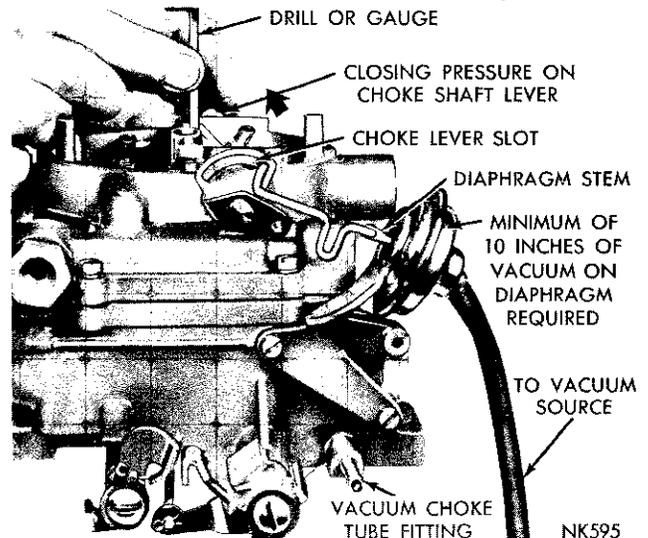

Fig. 14—Checking the Choke Vacuum Kick Setting
- (1) With the engine **Not** running, open the throttle valves far enough to allow the choke valve to be moved to the closed position.
- (2) Disconnect the vacuum hose from the diaphragm and connect the hose from the vacuum supply, as shown in (Fig. 14). (A minimum of 10 inches of vacuum) will be required.
- (3) Insert the specified drill between the choke valve and the wall of the air horn. Refer to (Fig. 14). Apply sufficient closing pressure on the choke shaft lever to provide the smallest choke valve opening possible without distortion of the diaphragm link. Note that the cylindrical stem of the diaphragm will extend as an internal spring is compressed. The spring must be fully compressed for proper measurement of the kick adjustment.
- (4) An adjustment will be necessary if a slight drag is not obtained as the drill or gauge is being removed. The adjustment of this opening will require the removal of the choke operating link.
- (5) Remove the clip and disengage the choke operating link from the choke lever, then disengage the link from the diaphragm stem. (The best bending results will be obtained by using a vise and a pair of pliers.)
- (6) Bend the choke operating link to provide the correct choke valve opening.
(7) Install the choke operating link and recheck the choke valve opening, using a drill or gauge. Refer to (Fig. 14).